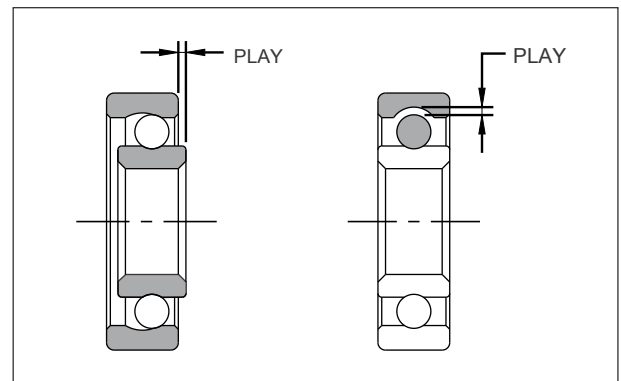

Fig. 6.6
- ▮ Inspect the wheel bearings inner race for play by hand while fixing it in the hub complete front wheel. (Fig. 6.6)